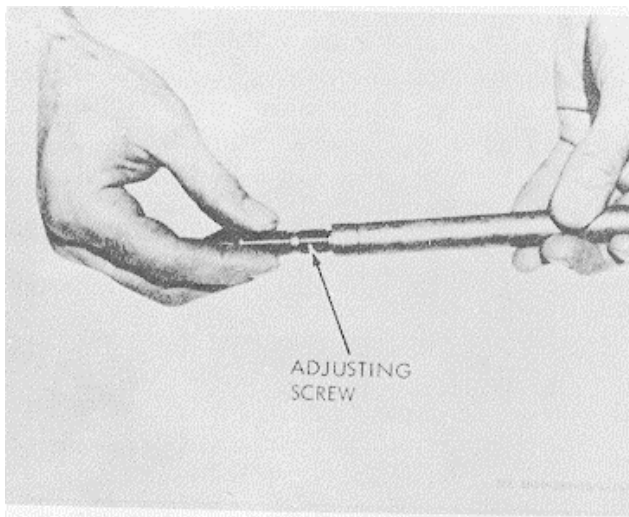

Figure 3-149. Checking mesh rod socket end with adjusting screw.
(3) Check socket of push tube with ball end of a new rocker lever adjusting screw, figure 3-149, or with a 3/16 in. check ball which should "blue in" 80 percent of seat area; spherical inside diameter new is 0.4995/0.5005 in.
(4) Extreme wear on either end of push tube will result in loss of lubricating oil pressure and may interfere with correct injector and valve adjustment.
(5) Check push tubes to see if they are bent (out-of-round). Tubes should not be out-of-round more than 0.025 in. when located in centers of socket and ball. Push tubes that are bent have usually had the adjusting screws over-torqued.
(6) Push tubes with worn balls should never be installed in new tappet sockets.
(7) Push tubes which have become filled with lubricating oil should be drained by drilling a 1/16 inch hole in the tube 1 inch above where tube contacts ball insert.